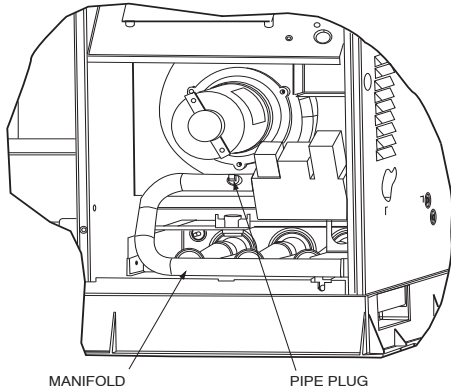

Fig. 10 - Burner Assembly
30. Remove the 1/8 in. pipe plug on the gas manifold and connect a pressure manometer (see Fig. 10).
34. Turn off unit, remove pressure manometer and replace the 1/8 in. pipe fitting on the gas manifold (see Fig. 10).